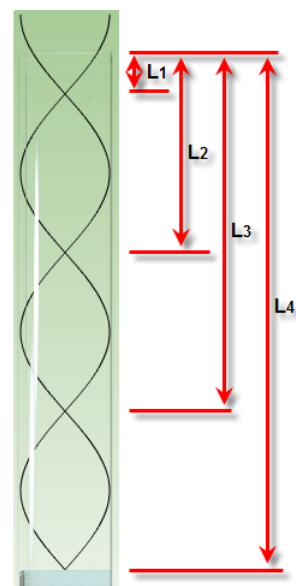

Figure 3 – Nodes 1-4
1. We'll continue with the same conditions – room thermostat set to 0 °C, air in the tube, C4 selected, and the wave display set for a node at about 17 cm as in Figure 2. Turn the volume on so you can hear the sound. Drag the reservoir as far down as it will go. As the air column lengthens you should hear three more pulses of maximum loudness. Each of these indicates air column lengths that satisfy our two boundary conditions. That is, they indicate additional nodes. See Figure 3.
If we label the locations of the four nodal points as shown in Figure 3 we can calculate the wavelength of our sound waves in a number of ways. In the three equations labeled Equations 2-4, each λ represents a calculation of the wavelength of our sound wave.